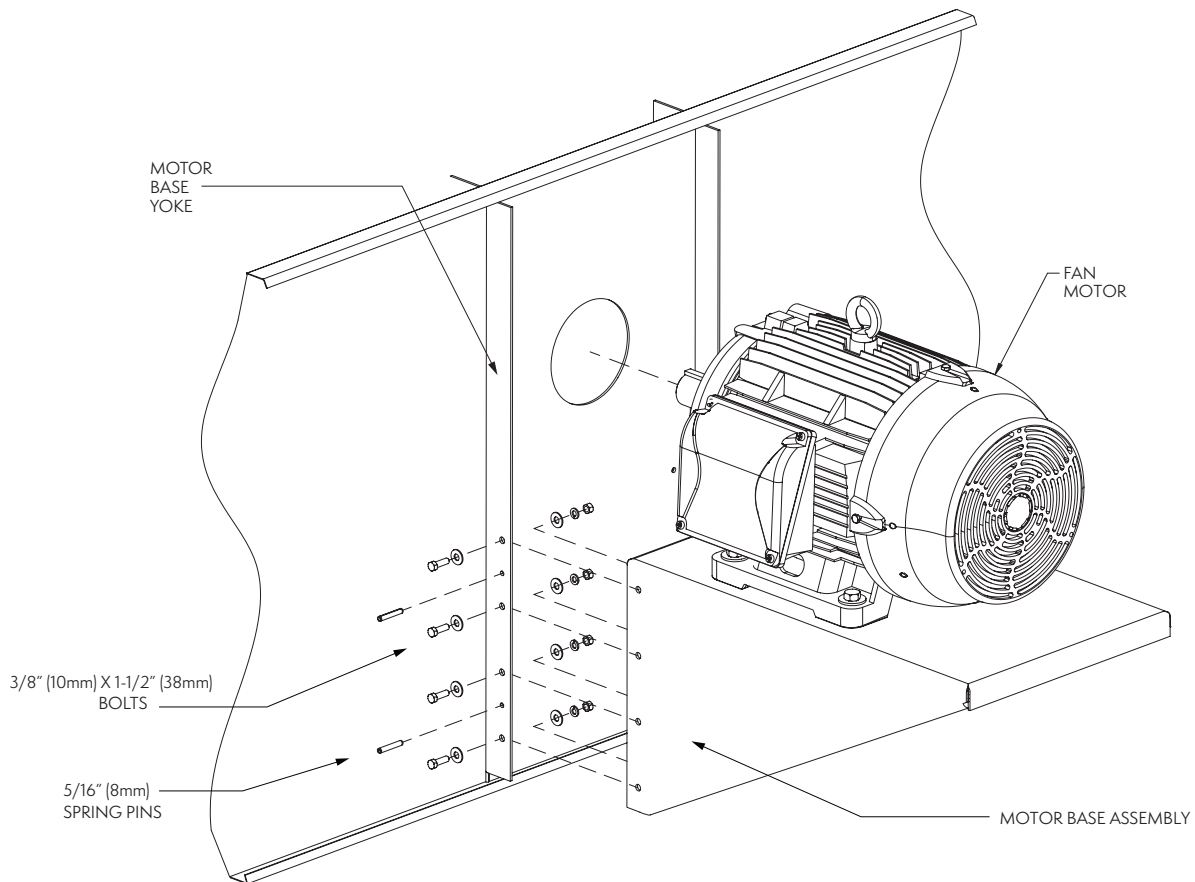

Figure 44 – External Motor Installation for Gear Drive Applications
1. Mount the motor base assembly to the motor base yoke using (4) 3/8" (10mm) x 1-1/2" (38mm) grade 5 bolts, flat washers, lock washers, and nuts on each side of the motor base assembly. Do not fasten any hardware until step 2 is complete.
2. In addition to the grade 5 bolts, install (2) 5/16" (8mm) spring pins on each side of the motor base assembly as shown in **Figure 44**.